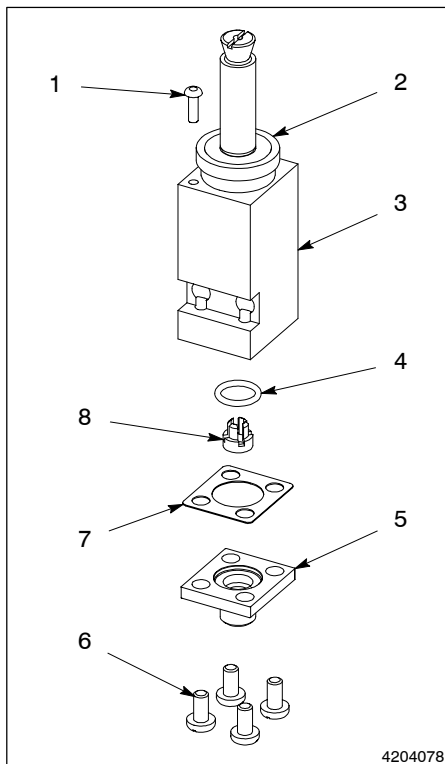

Fig. 6-20 Removing the Seat Adapter and O-ring
4. Refer to Figure 6-20 while performing the following steps.